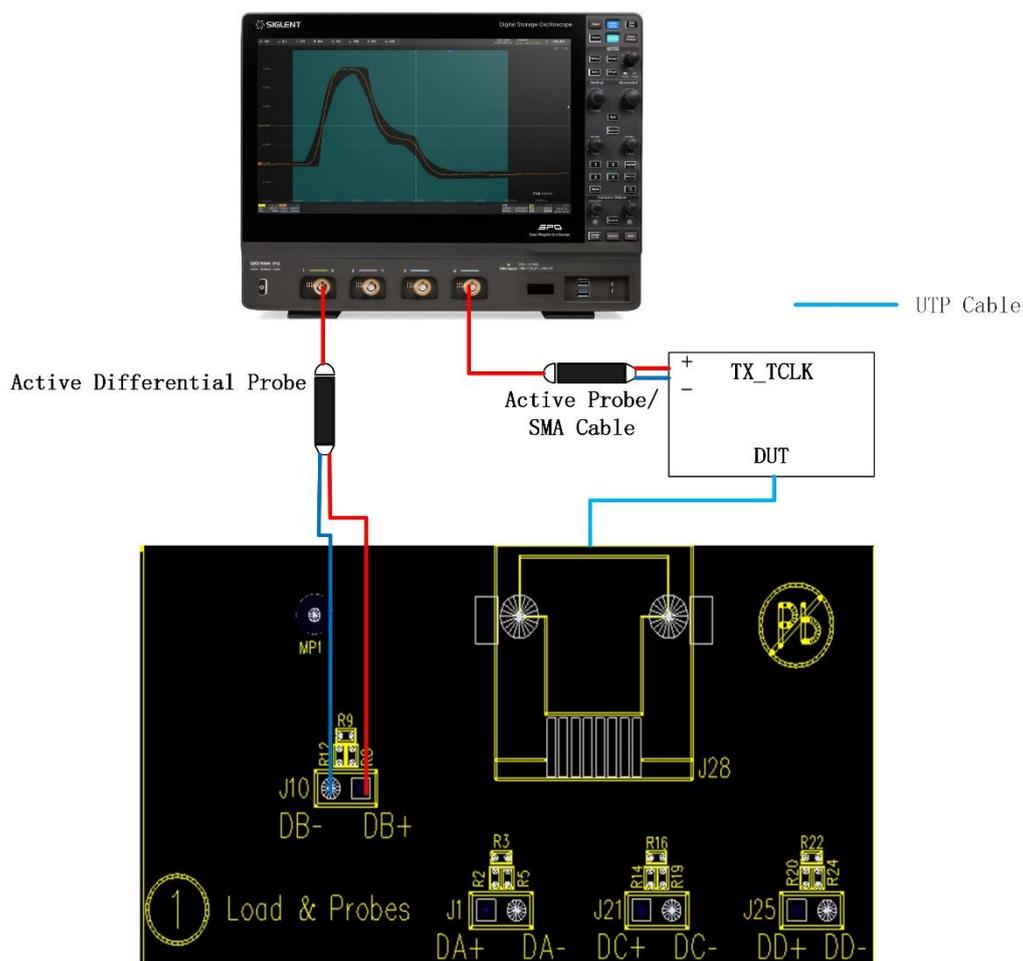

Figure 9-3 Transmitter distortion tests with TX_TCLK and without disturber by using Section ① on the test fixture
The connection with section ① on the test fixture is shown as Figure 9-3, the test step is as follows:
- (1) Use a short UTP cable to connect the DUT to J28 connector on section ① of the test fixture.
- (2) Use an active differential probe to probe test point (J1, J10, J21, J25) on section ① of the test fixture according to the signal pair being tested {(DA+, DA-), (DB+, DB-), (DC+, DC-), (DD+, DD-)}. Ensure correct polarity of the probe head.
- (3) Connect the DUT's TX_TCLK to one input channel of the oscilloscope by using an active probe or a SMA cable.